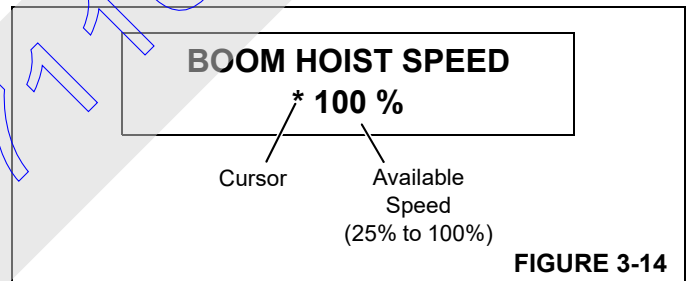

FIGURE 3-14
2. Access boom hoist speed screen (Figure 3-14) by depressing limit bypass switch or turning key clockwise and scrolling up (with selector next to display screen). Once this step is performed, release switch or key any scroll up or down through diagnostic screens until boom hoist speed screen appears.